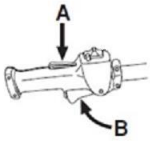

Fig. 5
7.2 THROTTLE LOCK (Fig. 5)
The throttle lock (Fig. 5-A) prevents involuntary accelerations, so to operate the accelerator you have to press the lock (Fig. 5-A) and the throttle simultaneously (Fig. 5-B).
- Before each use, press the throttle lock (Fig. 5-A) and check that it returns to the rest position when released.
- Before starting the earth auger, check that the throttle (Fig. 5-B) and the throttle lock (Fig. 5-A) are working correctly.
2. Place the red ignition switch on the handle in the "I" position (**Fig. 5**)